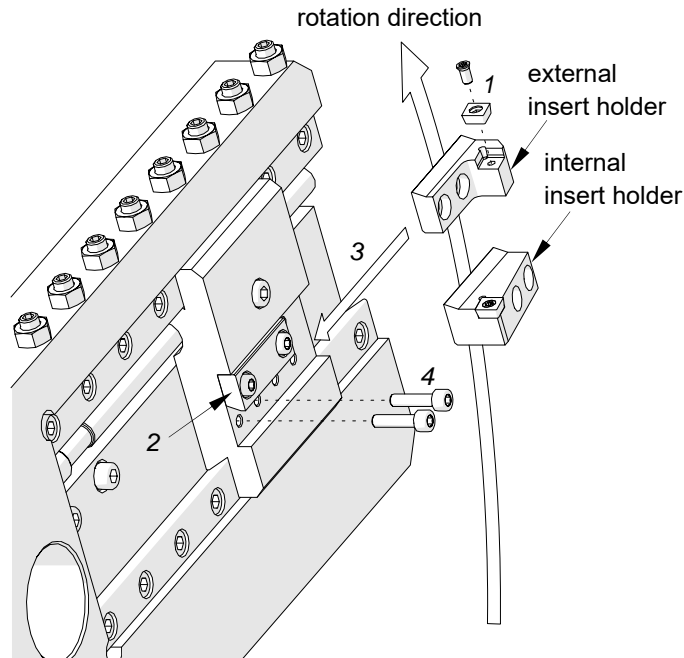

Fig. 8. Mounting the tool
Depending on the diameter of the flange to be machined, select either the internal ($\text{Ø}90\text{--}451$, 3.54–17.76”) or external insert holder ($\text{Ø}147\text{--}508$, 5.79–20.00”), onto which mount a cutting insert using the supplied screwdriver (1, Fig. 8). Then, use the 4 mm hex wrench to tighten the clamp 2, and slide the insert holder under the clamp (3) and tighten with the screws 4.